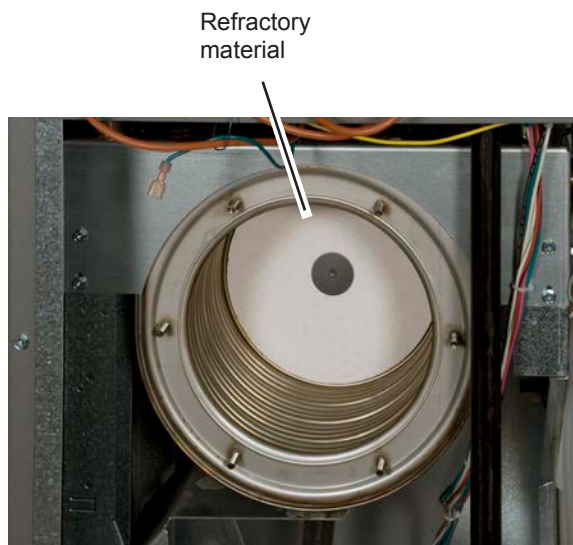

Fig. C5-11 - Inside of heat exchanger (new unit)
2. Figure C5-11 shows the inside of the heat exchanger.
The heat exchanger in Fig. C5-11 is new, so it is clean. Figure C5-12 is a photo of a dirty heat exchanger. Normally you will find a heat exchanger that looks like this. However, sometimes a heat exchanger can be really dirty, as shown in Fig. C5-13.